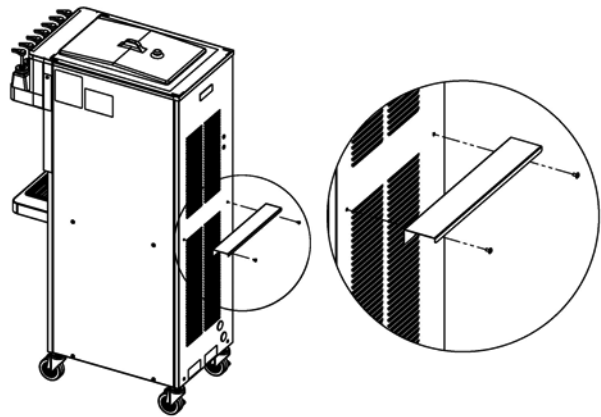

Figure 2-1 Rear Air Baffle
- C. Correct ventilation is required. Install the rear air baffle to provide the 3" clearance at the front and back (Refer to Figure 2-1). Remove the rear panel screws and use them to attach the baffle. The machine can be placed side-by-side next to other equipment.